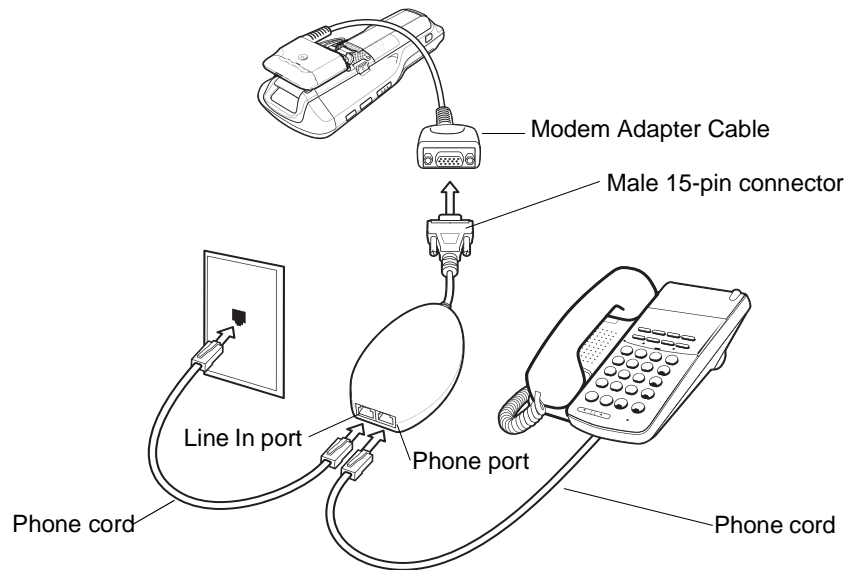

Figure 2-48 Modem Dongle Connection - MC9500-K
1. Connect the modem to the MC9500-K as shown in Figure 2-48 on page 2-33.